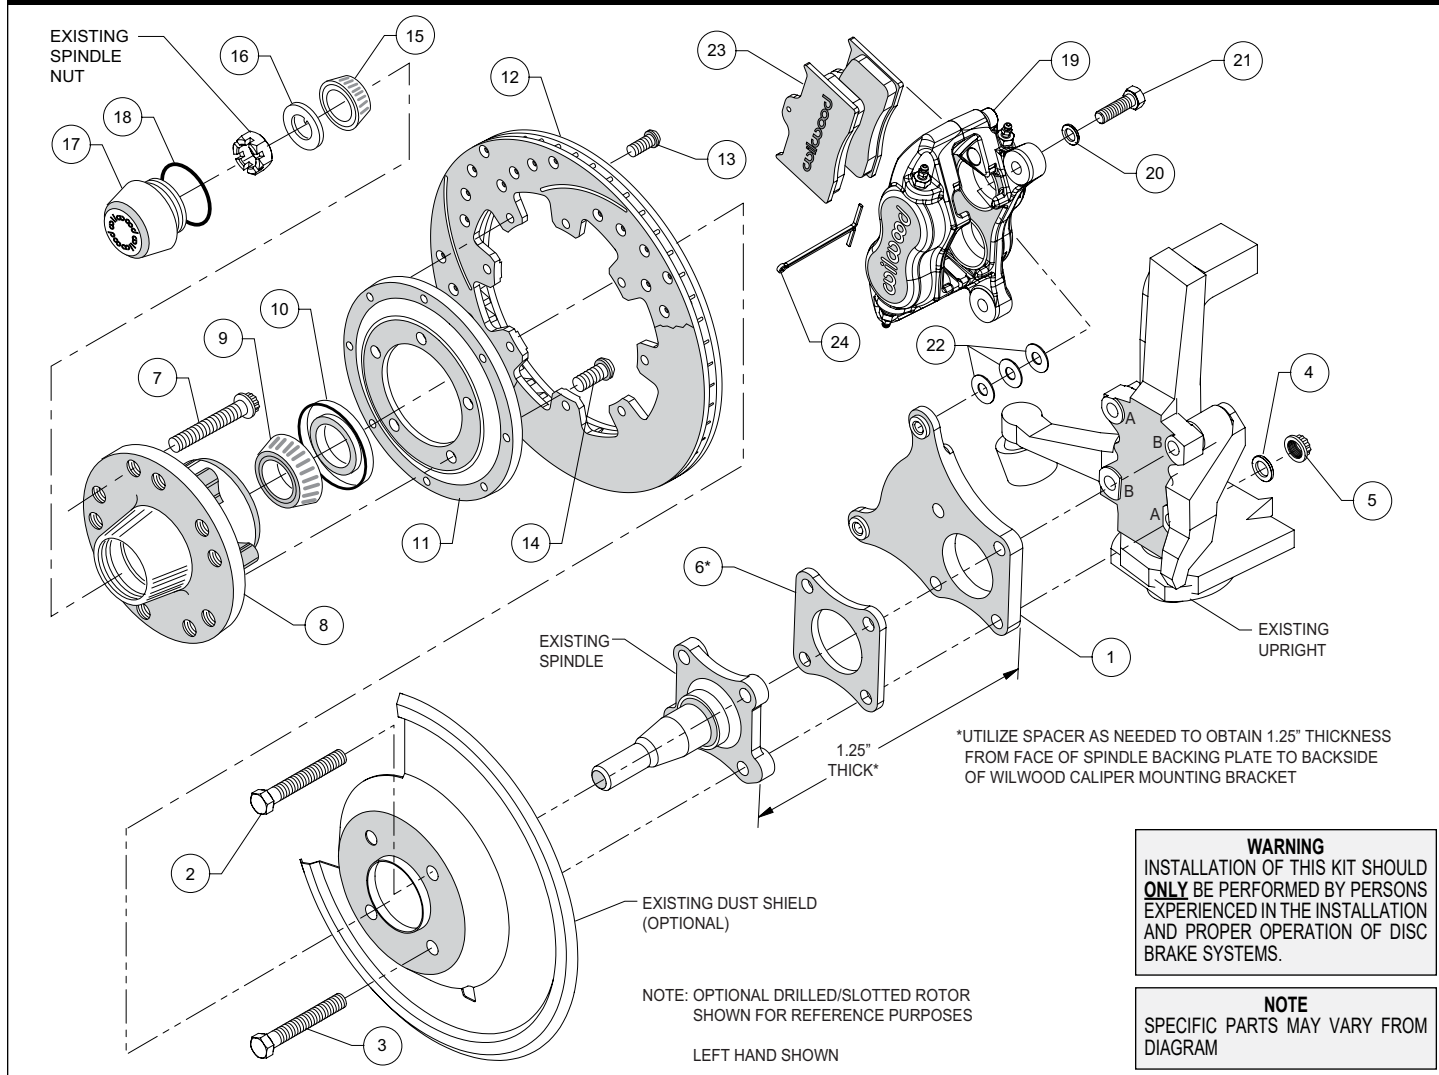
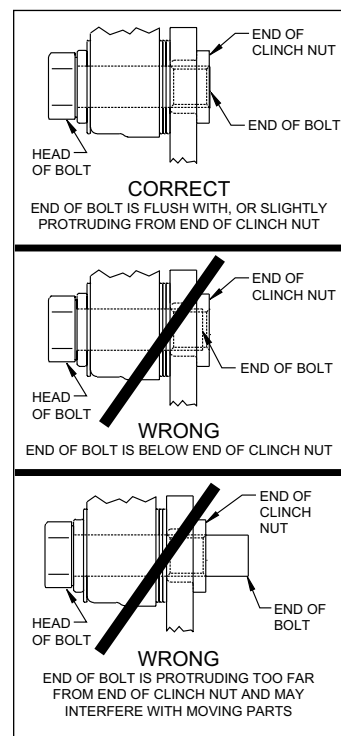

Figure 1. Typical Installation Configuration
Figure 3. Clinch Nut Engagement Diagram
NOTE: Numbers in parenthesis refer to the parts list and Figure 1 on the preceding pages.
CAUTION: All mounting bolts must fully engage clinch nuts. Be sure to check that all bolts are either flush or protruding through flanged side of clinch nut after shimming, Figure 3.
- Align caliper mounting bracket (1) with the corresponding holes, between the upright and the spindle. Attach using bolts (2 and 3), washers (4), and locknuts (5) as shown in Figure 1 and Photo 1. Bolt (2) goes into holes on the upright designed with a "B" and bolt (3) goes into the "A" marked holes, Figure 1. Measure the thickness of the spindle and mounting bracket, Figure 1. If approximately 1.00", place spacer (6) between the spindle and mounting bracket to achieve the correct thickness. Temporarily tighten the mounting bolts. Ensure that the flanged heads of the clinch nuts in the bracket are facing outboard, Photo 1. **NOTE:** The bracket must fit squarely against the mounting bosses on the upright. Inspect for interference from casting irregularities, machining ridges, burrs, etc. Remove bolts one at a time, apply red *Loctite*® 271 to threads and torque to 47 ft-lbs.
- Install wheel studs (7) into the hub (8), Photo 2. Torque to 77 ft-lb. **NOTE:** There are two five lug patterns in the hub (5 x 4.50 and 5 x 4.75). Ensure the correct hub stud pattern is being used to fit the wheel application.
- Pack the large inner bearing cone (9) with high temperature disc brake bearing grease (available from your local auto parts store) and install into the backside of the hub (8), Photo 3.
- Install the grease seal (10) by pressing into the backside of the hub (8), flush with the end of the hub, Photo 3.
- Orient the rotor (12) and the rotor adapter (11) as shown in Figure 1 and Photo 4. Attach the rotor to the adapter using bolts (13). Using an alternating sequence, apply red *Loctite*® 271 to the threads, and torque to 25 ft-lb.
- Mount the adapter/rotor assembly (11/12) to the hub (8) using bolts (14), as shown in Figure 1 and Photo 5. Using an alternating sequence, apply red *Loctite*® 271 to the threads, and torque to 45 ft-lb.
- Pack the small outer bearing cone (15) with high temperature disc brake bearing grease and install into hub (8). Slide the hub/rotor assembly onto the spindle. Secure using spindle washer (16) and OEM spindle nut, Photo 6. Adjust bearings per OEM specifications. Install saved OEM nut lock (if any) and a new cotter pin (not supplied).
- Screw dust cap (17) into hub (8), Photo 7. Friction created by the o-ring (18) on the dust cap keeps it from unscrewing. **NOTE:** *The O.D. of the existing OEM spindle washer may be larger than the I.D. of the dust cap not allowing it to seat against the hub face. Therefore, use the spindle washer (16) supplied with the kit instead of the OEM washer.*
- NOTE:** *Please reference the caution statement at the beginning of the assembly instructions.* Mount the caliper (19) onto the caliper mounting bracket (1) using bolts (21) and washers (20), as shown in Figure 1. Initially place three .035" thick shims (22) on each bolt between the caliper and the bracket, Photo 8. Temporarily tighten the mounting bolts and view the rotor (12) through the top opening of the caliper. The rotor should be centered in the caliper, Photo 9. If not, adjust by adding or subtracting shims between the bracket and the caliper. Always use the same amount of shims on each of the two mounting bolts. **NOTE:** *The end of each bolt must be flush with or slightly protruding from the head of the clinch nut, as shown in Figure 3.* If necessary place spare shims between washer (20) and caliper mounting ear to achieve the proper clinch nut engagement. Once the caliper alignment and clinch nut engagement are correct, remove the bolts one at a time, apply red *Loctite*® 271 to bolt threads, and torque to 40 ft-lb.
- Install the disc brake pads (23) into the caliper, with the friction material facing the rotor (12), and secure in place using cotter pin (24), Photo 10.